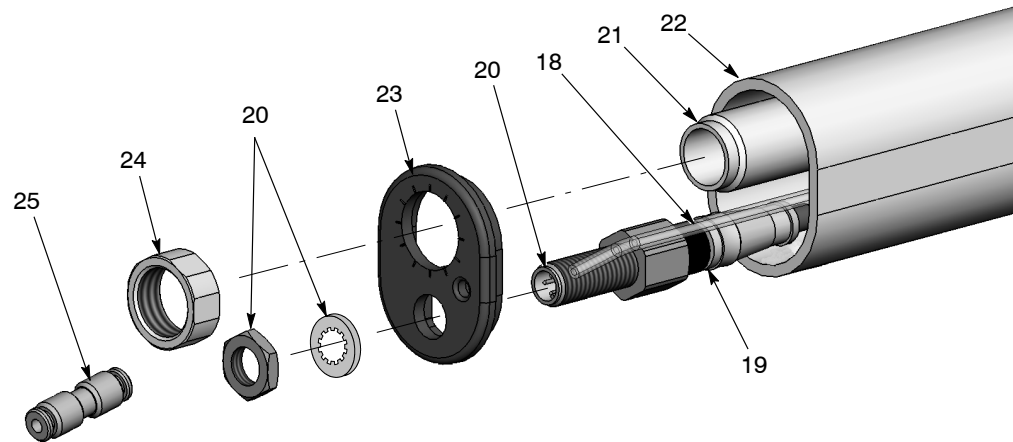

Figure 7-8 Tube-Mount Spray Gun Disassembly 1 of 5
2. See Figure 7-8. Disconnect the union (25) from the clear 4-mm air tubing (18).
3. Disconnect the spray gun cable (not shown) from the cable receptacle (20).
4. Unscrew the clamping tube nut (24) from the clamping tube (21).
5. Remove the nut and lock washer from the cable receptacle (20). Save the nut and lock washer for reuse.
6. Pull the end cap (23) off the end of the spray gun.